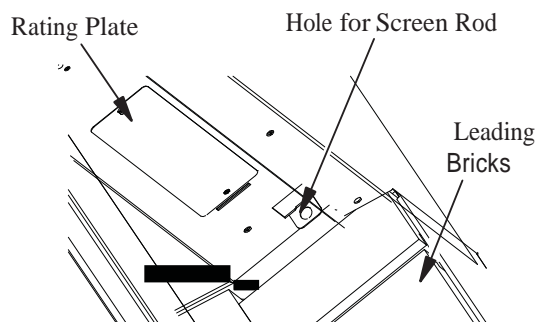

Figure 22 - Installing Fireplace Screen
2. Insert the round end screen rod into hole on the left and right side of smoke shelf (Figure 22).